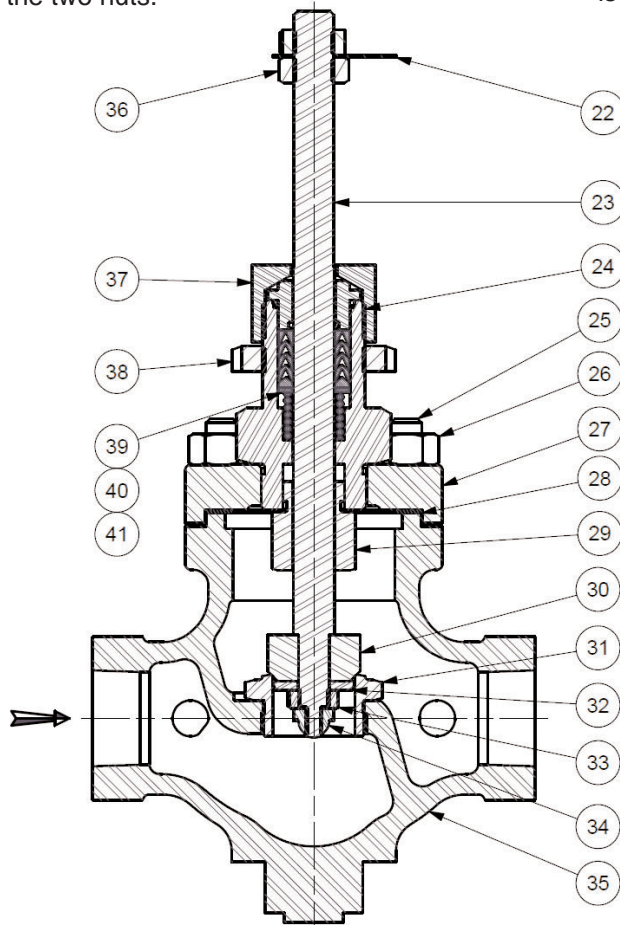

Figure 2 - Valve Body Assembly
Remove stem nuts (36), indicator (22), packing nut (37) and lock nut (38) as shown in Figure 2. Lift yoke off the bonnet (24). Remove bonnet nuts (26) and lift off bonnet flange (27), bonnet and stem and plug assembly. Remove gasket (28). A new gasket should be installed each time the valve body is disassembled. Turn stem and plug assembly out of the bonnet through packing. Replace packing if necessary. All parts should be inspected for wear and cleaned thoroughly before re-assembling the valve body.